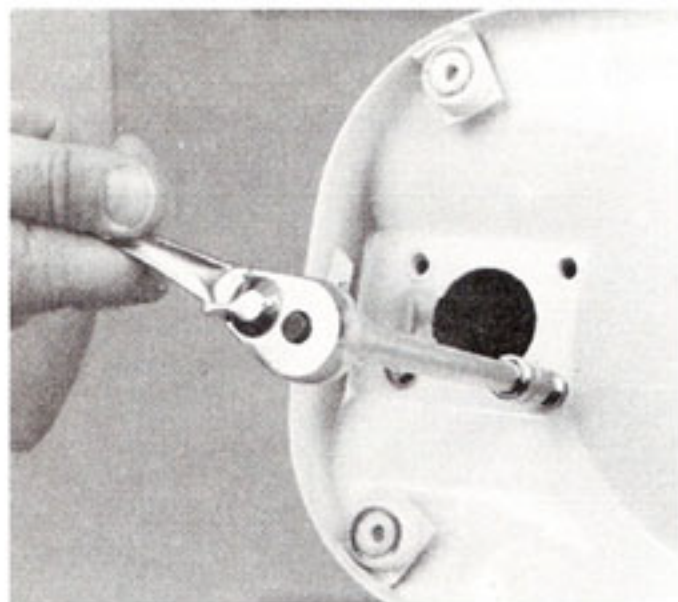

Fig. 95
- J. Place the base on the bottom of the column and screw in the four  $\frac{5}{16}$ "-18 x  $\frac{3}{4}$ " round head screws (Fig. 95). Be sure these screws are very tight to prevent shaking loose (70 to 90 in. lbs.).